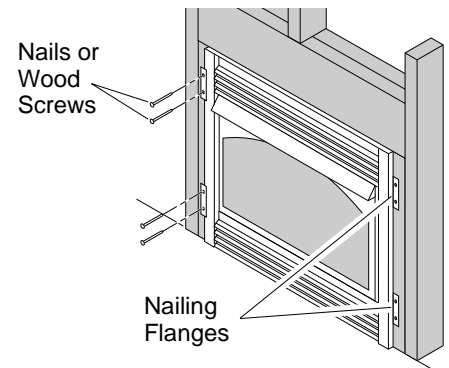

Figure 27 - Attaching Fireplace to Wall Studs
8. Attach fireplace to wall studs using nails or wood screws through holes in nailing flange (see Figure 27).